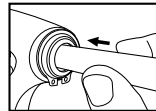

Fig.3
1. Place glue stick in rear chamber. (Fig. 3)